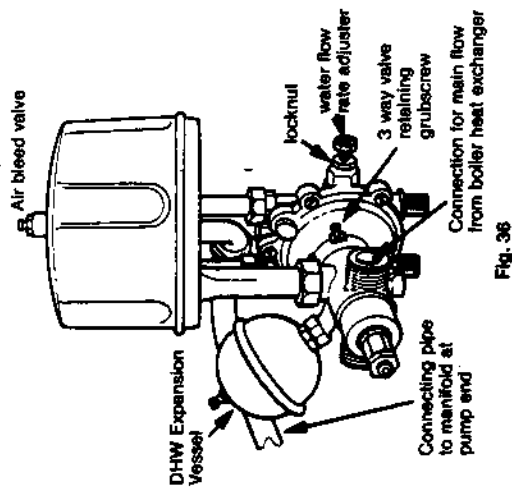

Fig. 36
- 8.16.1 Refer to figs 36, 37, 38 and 41
- 8.16.8 Disconnect 4 union nuts (fig 36).
- Refer to figs. 36 & 37
- Refer to fig 36